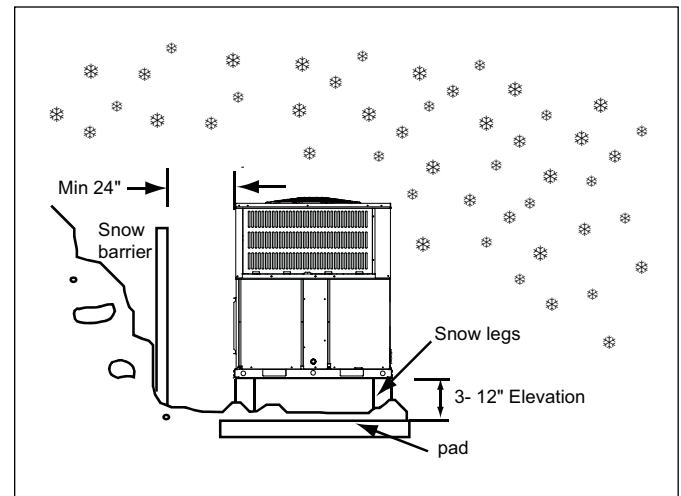

Figure 9
- ▶ Units should be elevated 3-12 inches above the pad or rooftop, depending on local weather. This additional height will allow drainage of snow and will permit condensate water to drain when the unit is in defrost mode. Ensure that drain holes in unit base pan are unobstructed, preventing drainage of defrost water (See Fig.9).